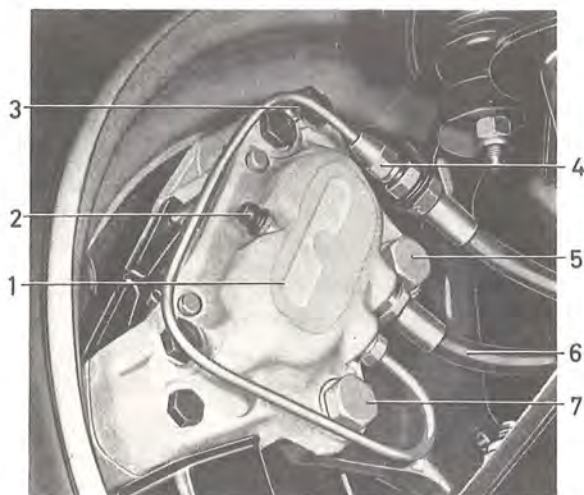
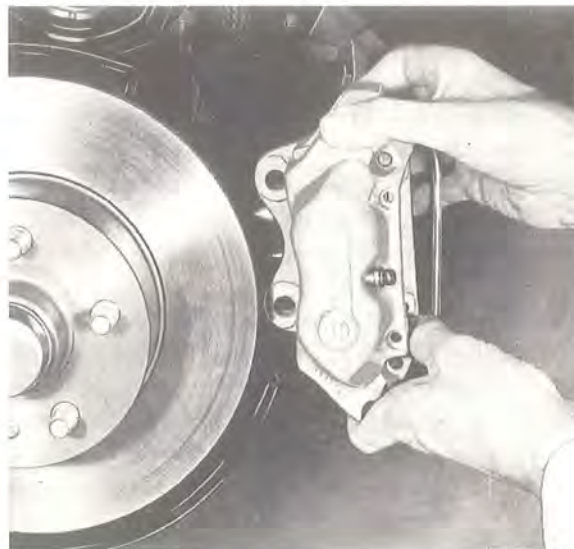

Fig. 5-20. Front wheel brake unit fitted
Fig. 5-21. Removing the front wheel brake caliper
4. Unscrew the attaching bolts (5 and 7, Fig. 5-20) and remove the brake caliper, see Fig. 5-21.